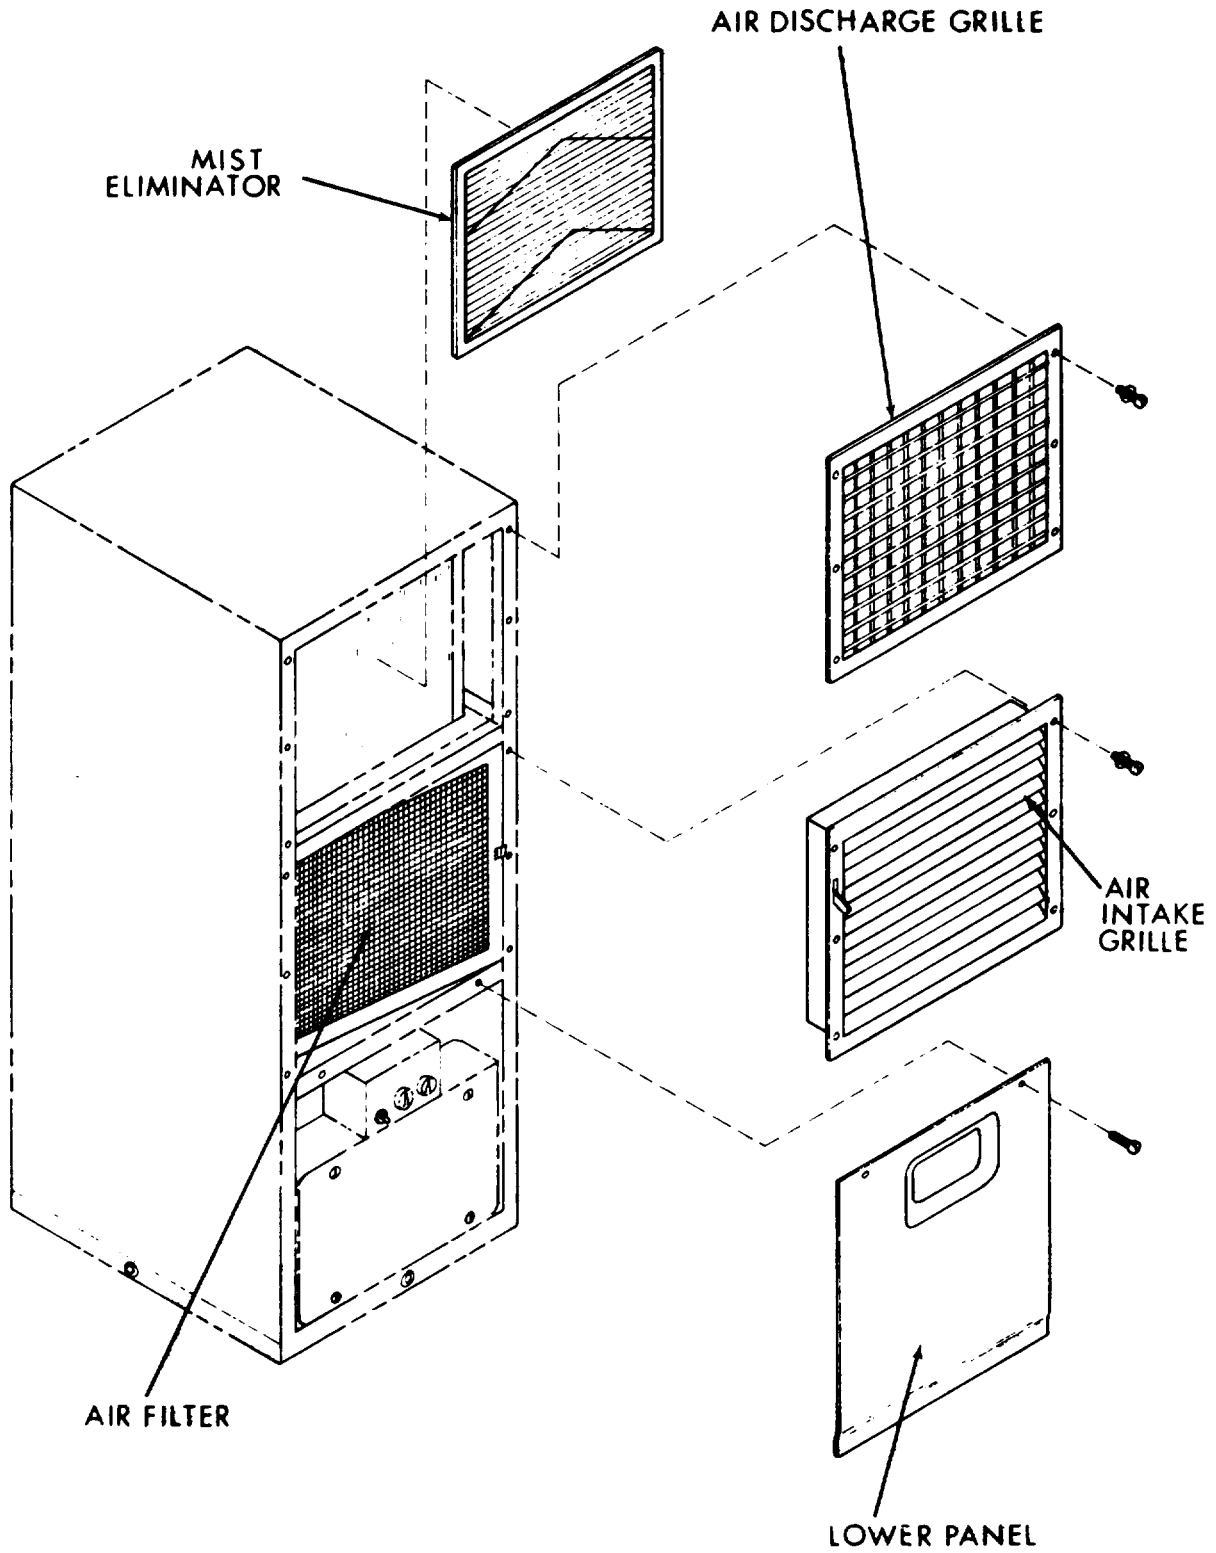

Figure 4-5. Panels, Louvers and Filters
#### 4.9. Air Intake and Discharge Grilles (See figure 4-5).
#### 4.10. Lower Panel (See figure 4-5).
**4.16. Air Filter (See figure 4-5).**